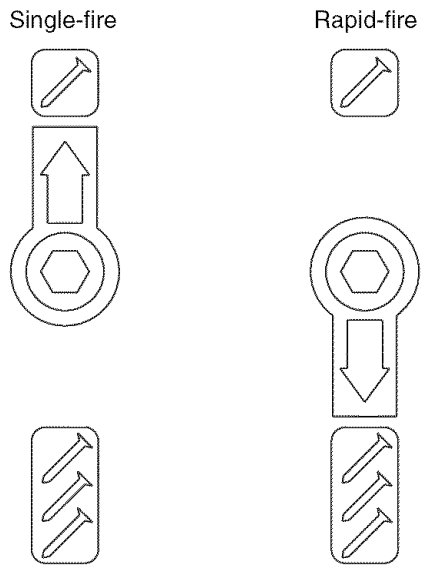

Figure 4 - Selecting Operation Mode
- The air tool is equipped with a rotating switch (Fig. 7, No. 43) that can be set to rapid-fire or single-fire mode (See Figure 4). When the switch is set to single-fire mode, the tool will not drive a second fastener until the trigger is fully released and pulled again.
Refer to Figure 4.